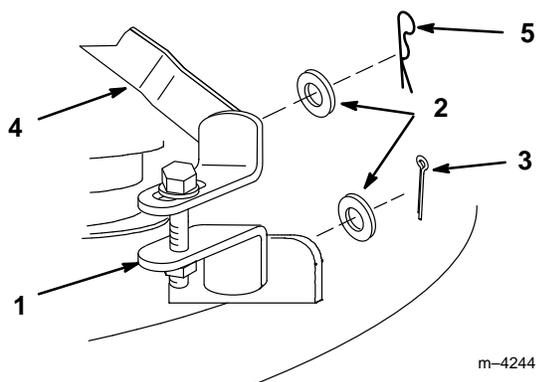

Figure 3
2. Install both front adjustable links to mower bracket with (2) 1/2" washers and (2) 1" cotter pins (Fig. 3).
8. Install both front adjustable links to front lift arms with (2) 1/2" washers and (2) 2-9/16" hairpin cotters (Fig. 3 & 5).